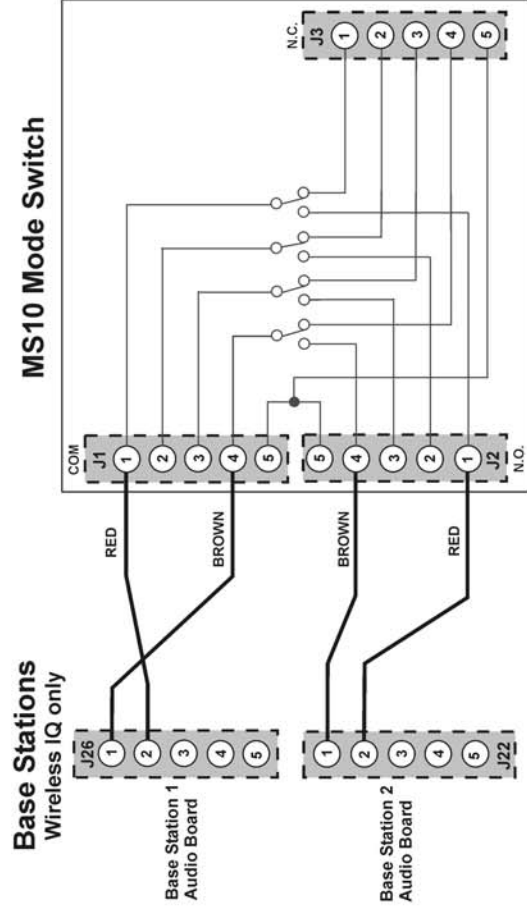
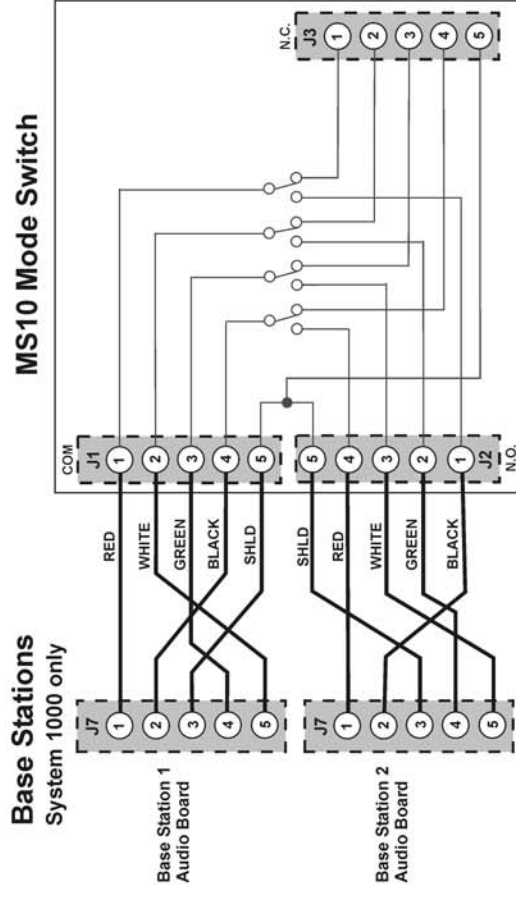
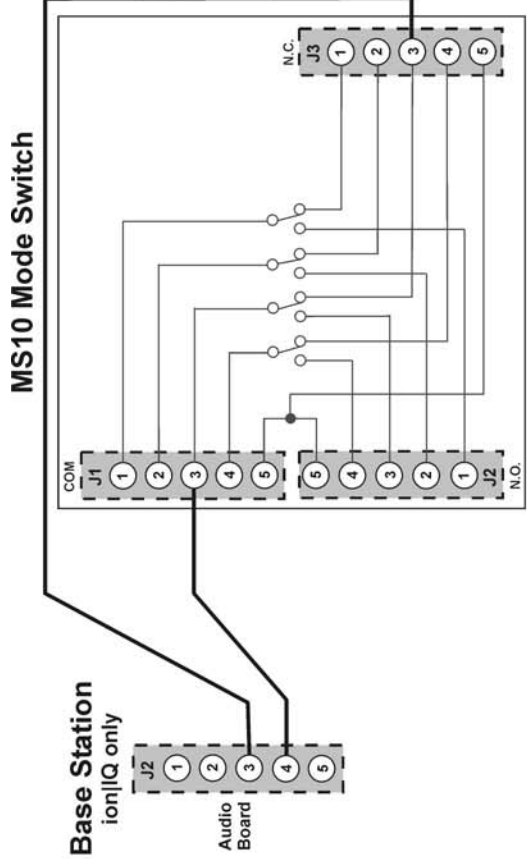
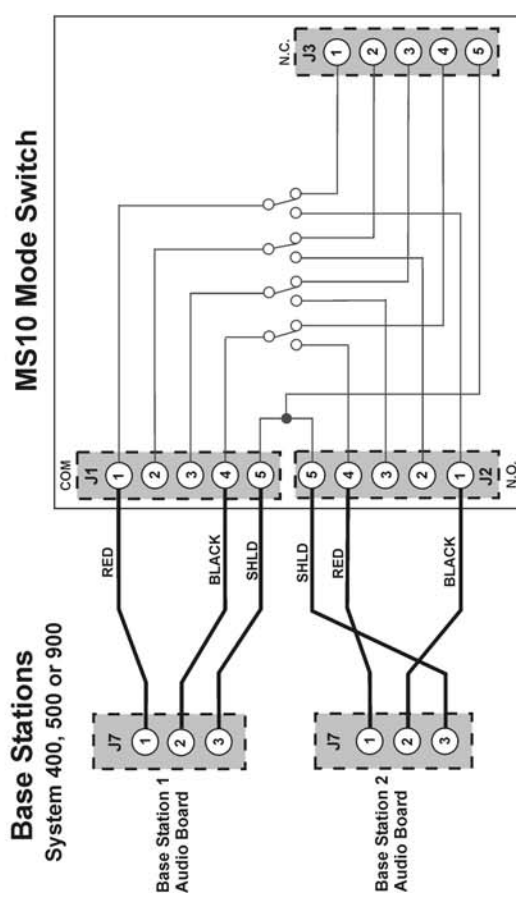

Figure 4. MS10 Connections for the Wireless IQ™ System
Figure 6. MS10 Connections for the System 1000
Figure 3. MS10 Connections for the ion|IQ™ System
Figure 5. MS10 Connections for the System 400, 500 or 900
2. Prepare the ends of the cable by stripping the cable and wires **as required**. See Figure 3 (for ion|IQ only), Figure 4 (for Wireless IQ only), Figure 5 (for System 400, 500 or 900) or Figure 6 (for System 1000).
5. At the MS10 J1 (located on the circuit board), connect the cable wires to terminals 1 through 5 according to the color codes shown in Figure 3 (for ion|IQ only), Figure 4 (for Wireless IQ only), Figure 5 (for System 400, 500 or 900) or Figure 6 (for System 1000).
6. At the MS10 J2, connect the cable wires to terminals 1 through 5 according to the color codes shown in Figure 3 (for ion|IQ only), Figure 4 (for Wireless IQ only), Figure 5 (for System 400, 500 or 900) or Figure 6 (for System 1000).
9. At each of the audio system base stations, connect each cable wire as shown in Figure 3 (for ion|IQ only), Figure 4 (for Wireless IQ only), Figure 5 (for System 400, 500 or 900) or Figure 6 (for System 1000).